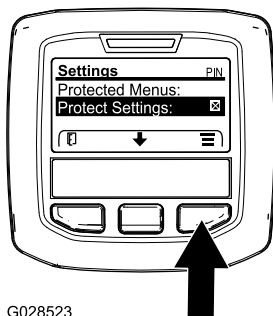

Figure 32
1. From the MAIN MENU, use the center button to scroll down to the SETTINGS MENU and press the right button (Figure 32).